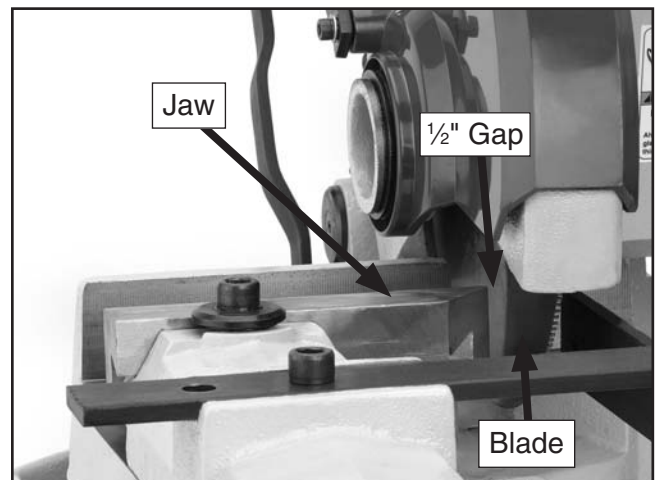

Figure 27. Setting blade clearance.
5. Slide the jaw so that it is approximately $\frac{1}{2}$ " away from the blade (**Figure 27**).